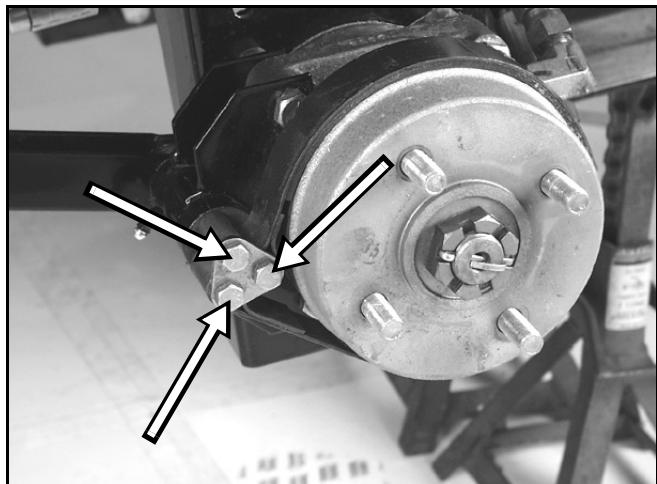

Figure 77 1030-001
4. Remove the 3 bolts securing the brake band to the brake pivot (Figure 77).